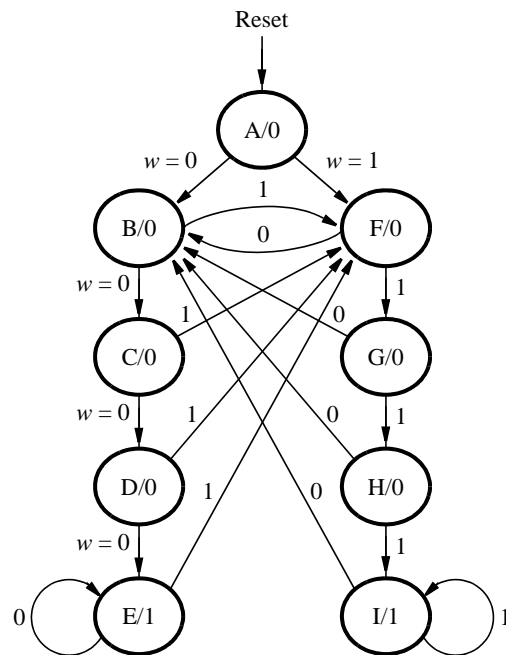

Figure 2. A state diagram for the FSM.
A state diagram for this FSM is shown in Figure 2. For this part you are to manually derive an FSM circuit that implements this state diagram, including the logic expressions that feed each of the state flip-flops. To implement the FSM use nine state flip-flops called y_8, \dots, y_0 and the one-hot state assignment given in Table 1.
For this part you are to write another style of Verilog code for the FSM in Figure 2. In this version of the code you should not manually derive the logic expressions needed for each state flip-flop. Instead, describe the state table for the FSM by using a Verilog **case** statement in an **always** block, and use another **always** block to instantiate the state flip-flops. You can use a third **always** block or simple assignment statements to specify the output *z*. To implement the FSM, use four state flip-flops y_3, \dots, y_0 and binary codes, as shown in Table 3.
4. To examine the circuit produced by Quartus II open the RTL Viewer tool. Double-click on the box shown in the circuit that represents the finite state machine, and determine whether the state diagram that it shows properly corresponds to the one in Figure 2. To see the state codes used for your FSM, open the **Compilation Report**, select the **Analysis and Synthesis** section of the report, and click on **State Machines**.